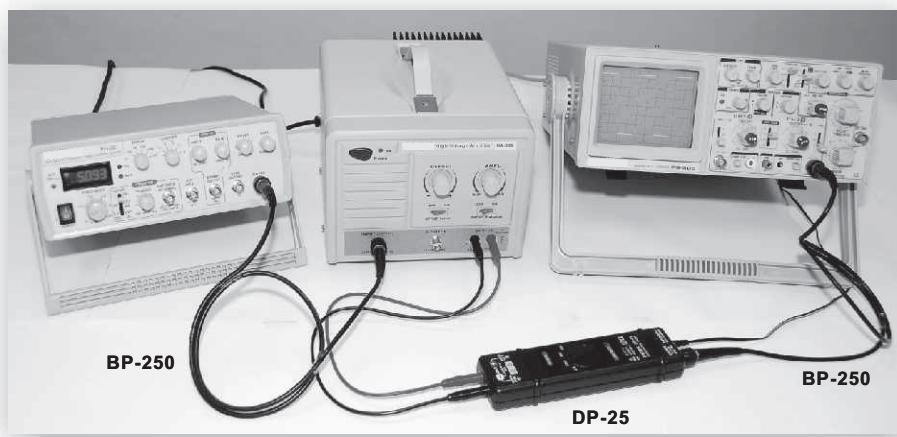

Figure 9.
- 5.2 Use Function Generator as input, and HA-305 output connects to Differential Probe as interface to transmit signal to oscilloscope to observe. (Figure 9.)